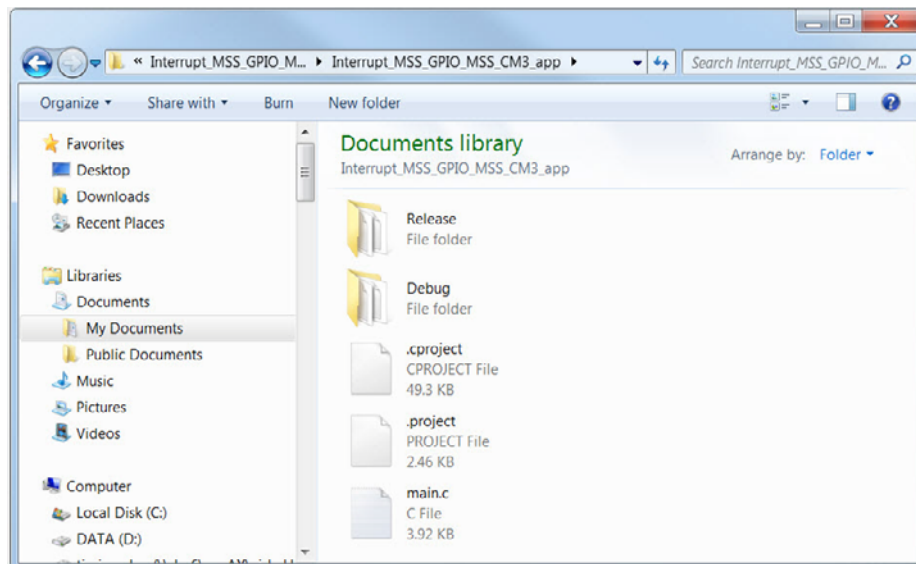
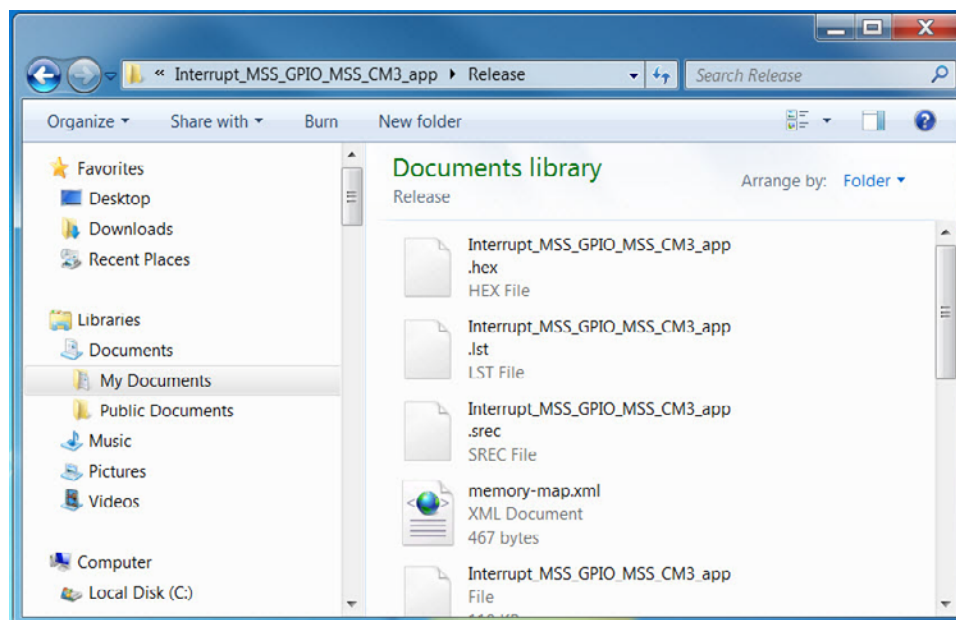

Figure 6-17 • Release Folder
Figure 6-18 • Hex File in Release Folder of SoftConsole Project Location
5. Build the project (**Project > Build All**) and observe that the '.hex' file is generated in the 'Release' folder created in the project folder, as shown in Figure 6-17 and Figure 6-18.